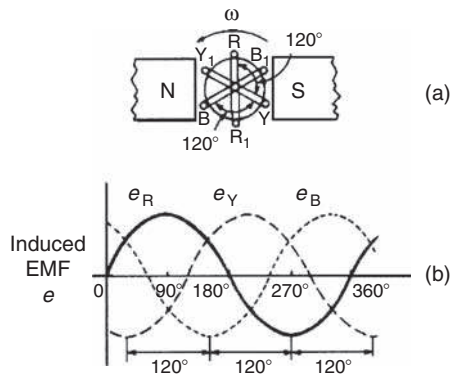

Figure 20.2
A **three-phase supply** is generated when three coils are placed 120° apart and the whole rotated in a uniform magnetic field as shown in Fig. 20.2(a). The result is three independent supplies of equal voltages which are each displaced by 120° from each other as shown in Fig. 20.2(b).
- (i) The convention adopted to identify each of the phase voltages is: R-red, Y-yellow, and B-blue, as shown in Fig. 20.2
A three-phase a.c. supply is carried by three conductors, called '**lines**' which are coloured red, yellow and blue. The currents in these conductors are known as line currents (I_L) and the p.d.'s between them are known as line voltages (V_L). A fourth conductor, called the **neutral** (coloured black, and connected through protective devices to earth) is often used with a three-phase supply. If the three-phase windings shown in Fig. 20.2 are kept independent then six wires are needed to connect a supply source (such as a generator) to a load (such as motor). To reduce the number of wires it is usual to interconnect the three phases. There are two ways in which this can be done, these being: